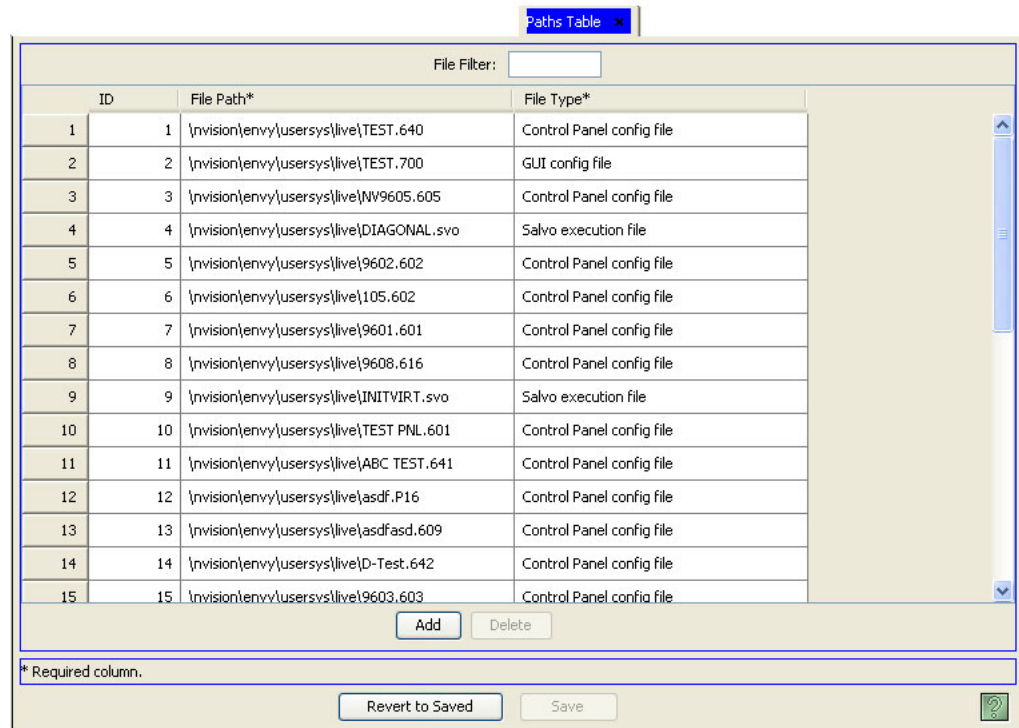

Figure 4-8. Paths Tables
- 2 From the Navigation area, select the 'Views' pane and then 'Paths'. The 'Paths' table appears, as shown in Figure 4-8.